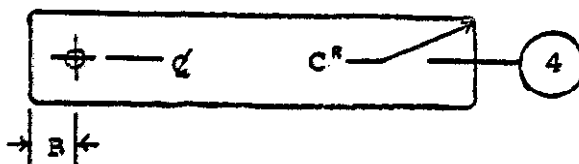

FIGURE 3
- D.** In the same way, the two blocks are clamped together. A hole 2-1/4 inches in diameter is bored horizontally, and three 1/4-inch holes are drilled vertically, as shown. The top center hole also requires a 1/2-inch counterbore, (1/4-inch deep) in the top block, to admit a locknut. A 6-inch strap iron is also drilled with three 1/4-inch holes to match the holes in the blocks. (See Figure 3 on page 5).